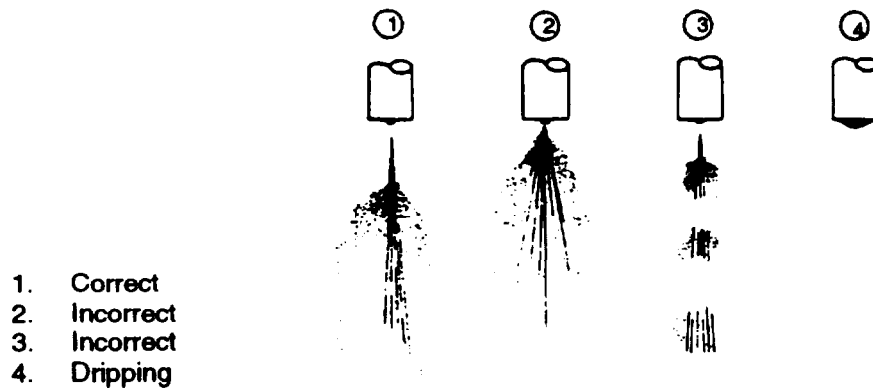

FIGURE 3-5. Fuel Injector Spray Pattern
- f. Spray should start at 1706 psi (120 kg/cm²) and a well atomized spray pattern (refer to FIGURE 3-5) should be visible.